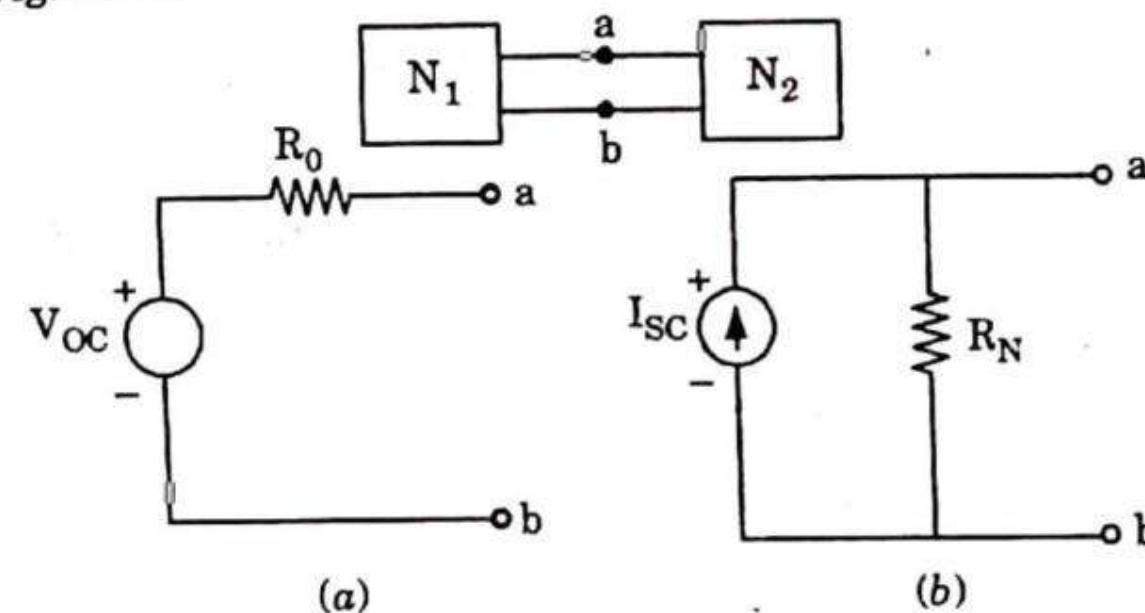

Fig. 1.25.2. (a) Thevenin equivalent, (b) Norton equivalent.
2. Thevenin and Norton equivalent of N_1 as seen from ab are shown in Fig. 1.25.2.